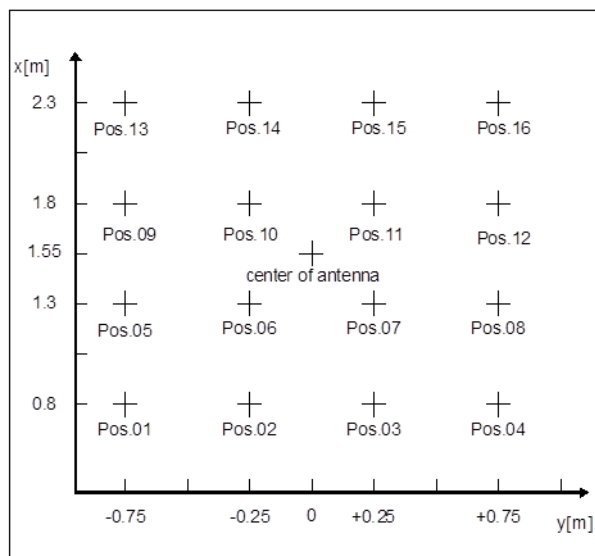

Figure 8-2: Sensor positions for field uniformity measurements
The x-positions (sensor altitudes) in Figure 8-2 correspond with the standard, which requires to place the EUT on a table with a height of 0.8 m.
While placing the field probe at each of the 16 predefined positions according to Figure 8-2, you must execute 16 reference calibration sweeps for both antenna polariza-
The position values correlate with the positions shown in Figure 8-2.
- a) If you use 4 probes next to each other, covering a horizontal row of 4 positions in the 4x4-position test matrix (Figure 8-2) of a field uniformity measurement, enable the "Row" mode: